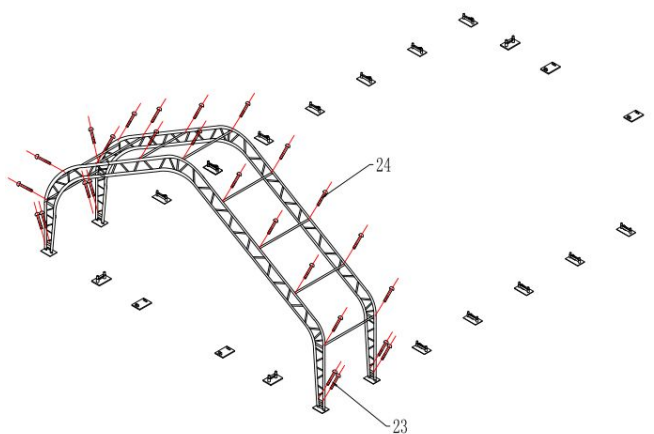
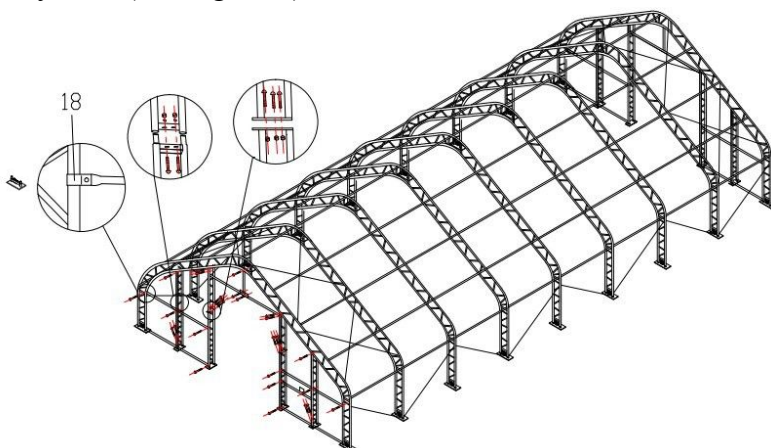

Figure 6
Figure 7
3. Connect Purlin (No.6) to arch by using Bolt M10x80mm (No.24) by turns (see Figure 6), then connect the Steel wire (NO.17 and NO.19) on top and side by using Clip (No.18) (see Figure 7).